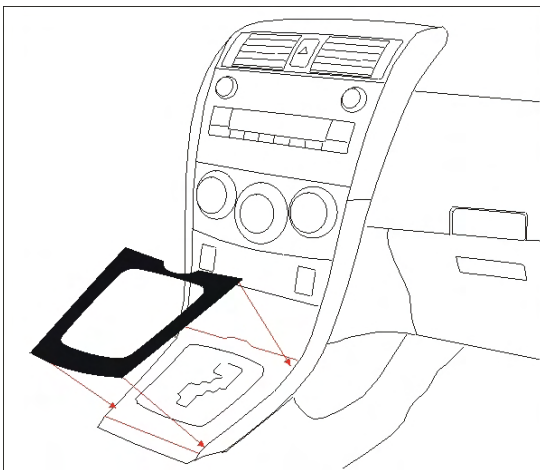

Fig. 7-1
- (b) Align part uniformly to the outer edge of the factory shift plate. (Fig. 7-1)